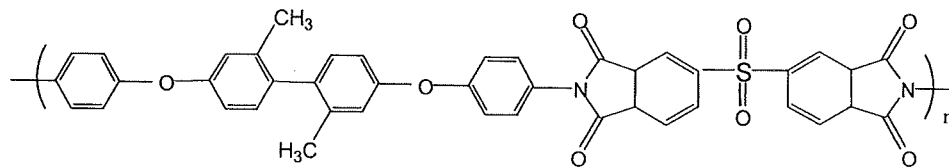

Figure 1: Chemical structure of polymer P
- (ii). Suggest a method to reduce dielectric constant of polymer P (Figure 1). Explain your answer.